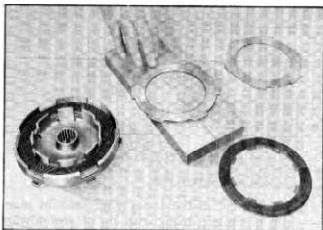

Fig. 94—Checking Plates for Dish
- Place the four equally spaced tabs on clutch hub thrust washer into slots in clutch hub. Then place clutch hub with thrust washer on clutch flange with open side of clutch hub up and install five steel and four composition plates alternately (fig. 94).